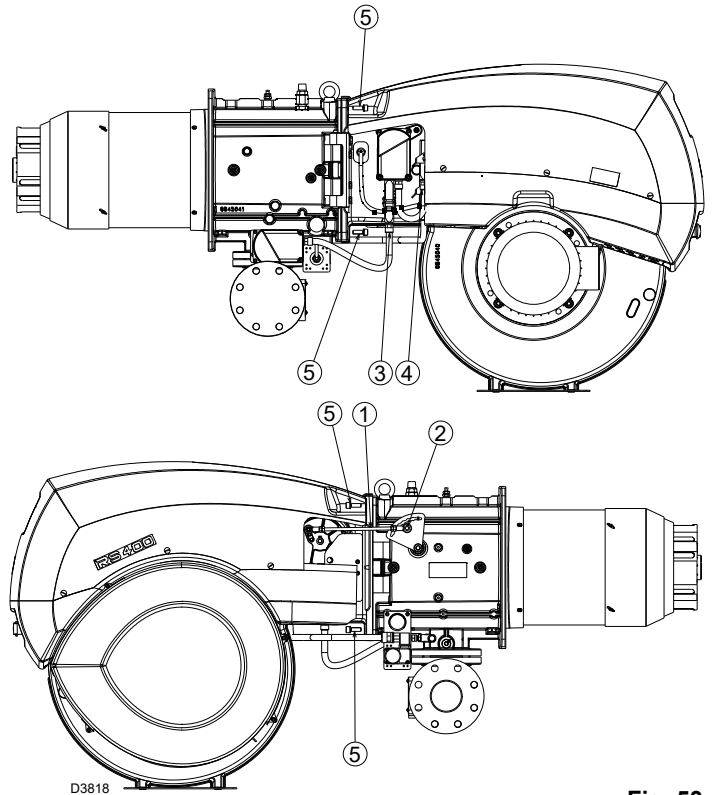

Fig. 53
- Remove the tie rod 1)(Fig. 53) of the head movement lever, loosening nut 2).
- Apply screw 5)(Fig. 53).